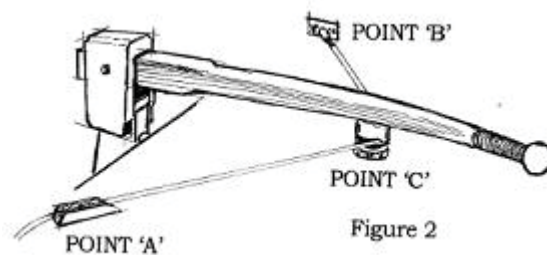

Figure 2
### For boats with 'outboard' rudders (see Figure 2)
- c) The anchor points could be at points 'A' and 'B' as in Figure 2, but it will be different from boat to boat